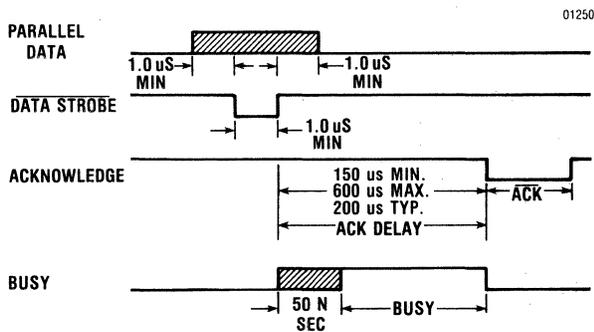

Figure 2-3 Parallel Interface Control Signals
2.12.1 CARRIAGE MOTOR DRIVE—Table 2-3 defines the carriage motion control signals that control the DC motor drive circuitry shown in simplified form in Figure 2-3.
2.12.2 RIBBON MOTOR DRIVE—Ribbon drive is accomplished with a 12V DC motor, controlled by a single-stage (transistor) drive amplifier as shown in Figure 2-3. This motor will be on whenever the print head is commanded to move. A diode connected across the motor is used to protect the transistor driver.